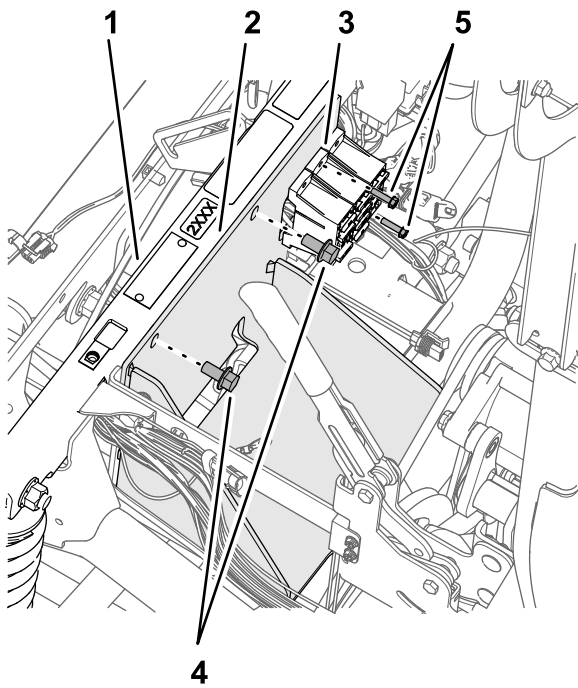

Figure 174
2. Assemble the battery bracket to the shock-support tube (Figure 174) with the 2 flange-head bolt (3/8 x 3/4 inch) that you retained in step 4 of Removing the Battery \(300 A\) and Battery Bracket (page 72).
4. Secure the fuse blocks to the battery bracket (Figure 174) with the bolt (10-24 x 3/4 inch) and nuts (10-24) that you removed in step 3 of Removing the Battery \(300 A\) and Battery Bracket (page 72).